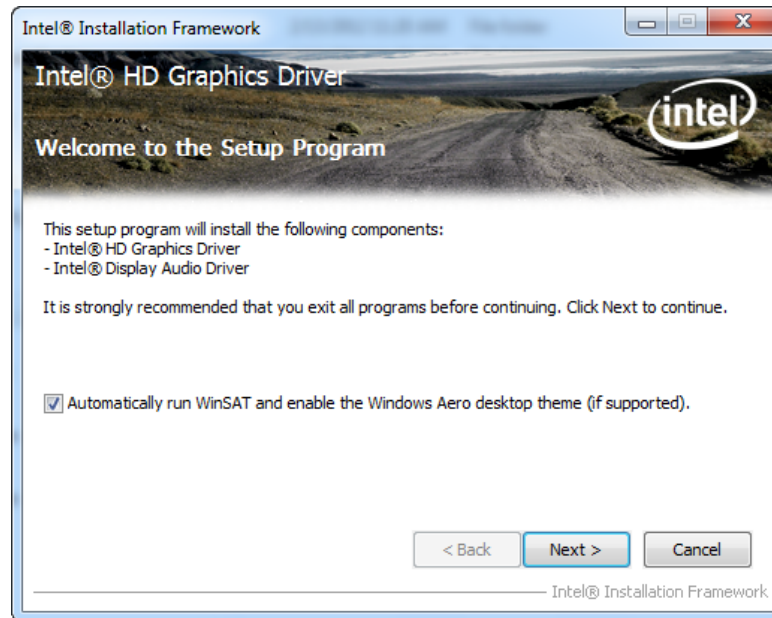

Figure 6-10: Graphics Driver Welcome Screen
Step 8: The **Welcome Screen** in **Figure 6-10** appears.